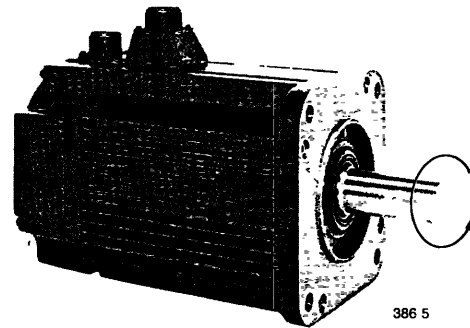

Fig 9.1 Motor Forward Running
- When the reference voltage is positive, the motor rotates forward (counterclockwise viewed from drive end—output shaft) (Fig. 9.1).